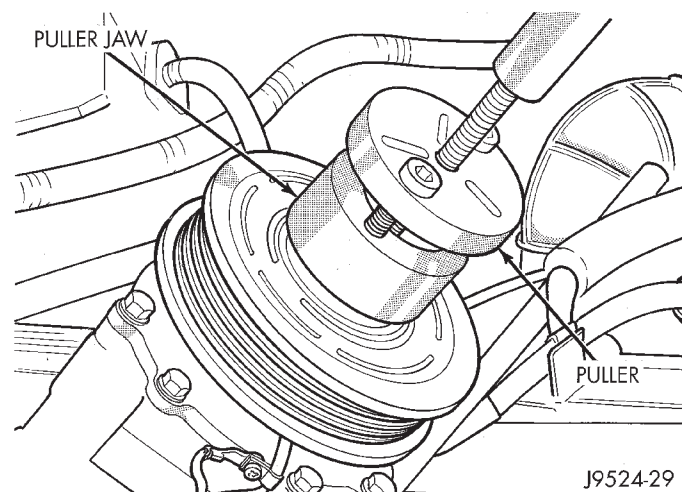

Fig. 8 Install Puller Plate
(8) Install puller 6461 and through bolts into the jaws finger tight (Fig. 8). Turn puller center bolt clockwise until rotor pulley is free.